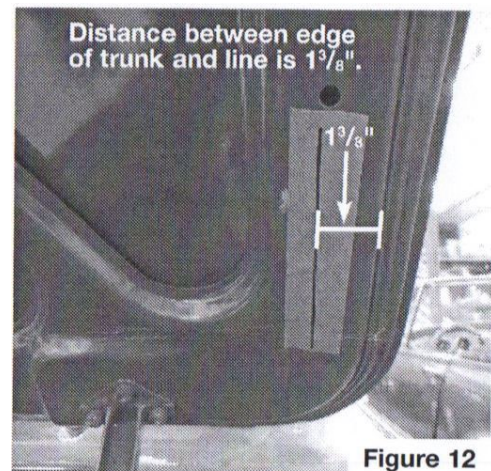

Figure 12
12. Use a ruler and felt tipped pen to make a vertical line 1 3/8" from the right side of the trunk. Measure the 1 3/8" starting from the inside edge of the trunk. Refer to figure 12.